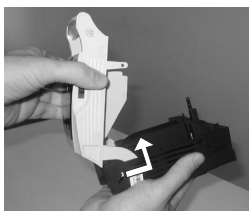

Figure 3
- Move the cover along the base of the disconnecter and then take off the cover from the base (Figure 3).